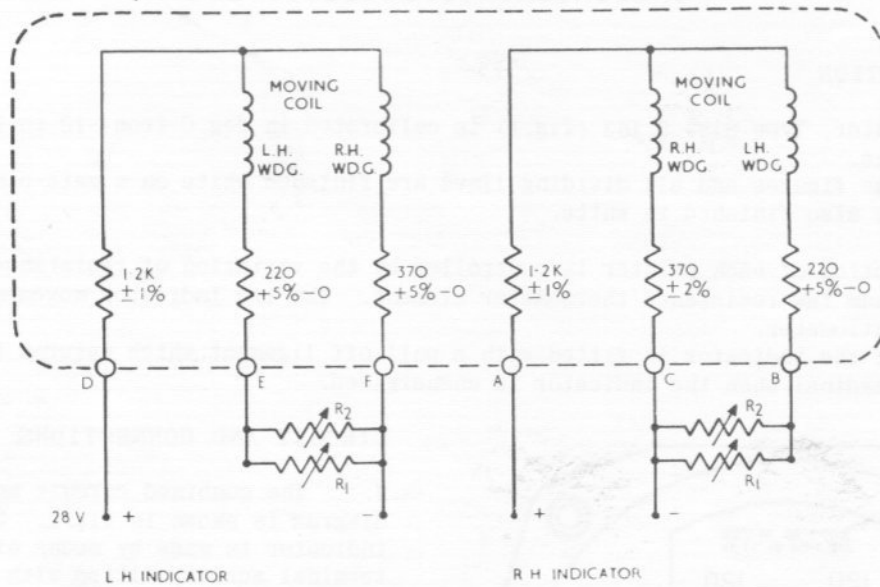

Fig.2 Circuit and test circuit diagram
8. Set the resistance boxes to be used as R1 and R2 to 126 ohms and 19720 ohms respectively, then connect the indicator to the test circuit shown in fig.2 for the left-hand indicator.